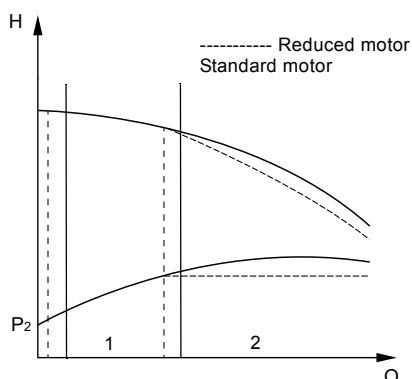

Fig. 37 Standard performance curve compared to a curve for a pump fitted with an undersize MLE motor.
Figure 37 shows that a pump operating at low flow rates and relatively high pressures (1) can be fitted with an undersize motor with a rated power that matches this operating range. At higher flow rates and relatively lower pressures (2), the motor will reduce its speed when the power limit is exceeded and follow a steeper curve corresponding to the power available.